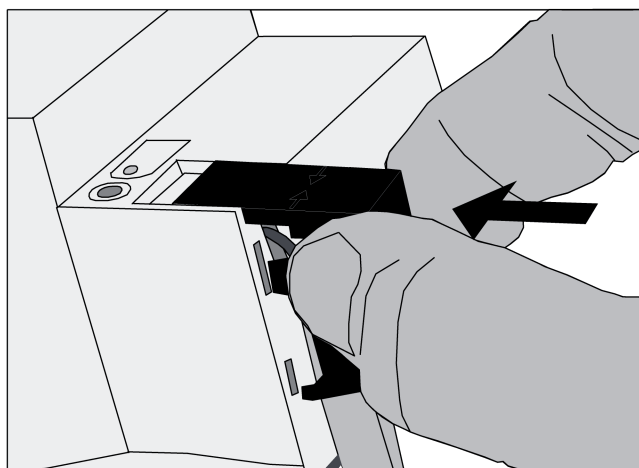

Figure 7: Installing the cover
- Install cover on top of the bus terminal so that it snaps into place (Figure 7).